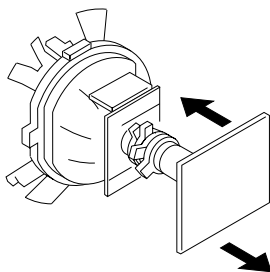

Fig. 3-1
(See Figures 3-1 through 3-3.)
4. Move the deflection yoke forward and adjust so that the entire screen is green. (See Figure 3-1.)